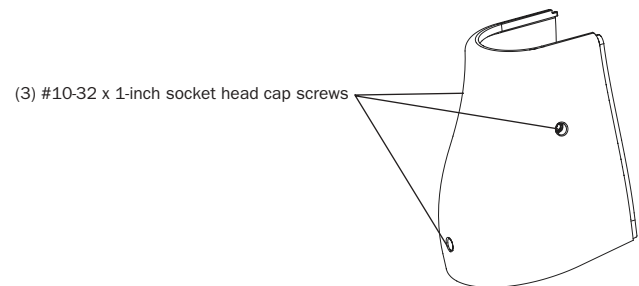

Figure 38. Attaching the plastic rear leg caps
**2** Place the rear leg caps over each leg. Attach each rear cap with the screws indicated in Figure 38.